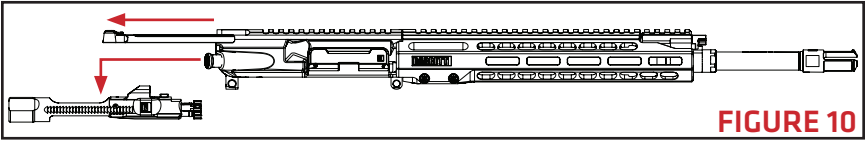

FIGURE 10
1. Pull back the charging handle and withdraw the bolt carrier assembly (**FIGURE 10**).